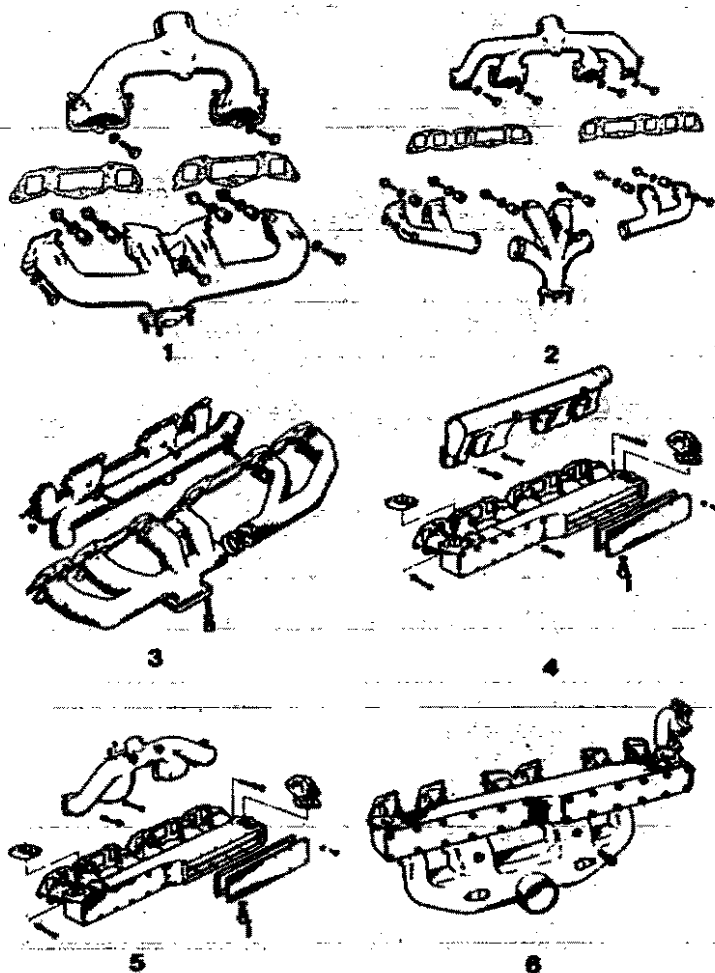

Fig. 2 A selection of manifolds used with 2700 Range Engines.
The inlet and exhaust manifolds are separate and are retained on the left-hand side of the cylinder head by studs, with brass nuts, and bolts, all fitted with plain washers. The studs are located in the upper holes and retain both manifolds. Bolts are used in the lower holes only (See Fig. 2).
## Inlet and Exhaust Manifolds – (Turbocharged Industrial Engines) Fig. 2.
**Inlet and Exhaust Manifolds — (Turbocharged Marine and Intercooled Engines) Fig. 2.**